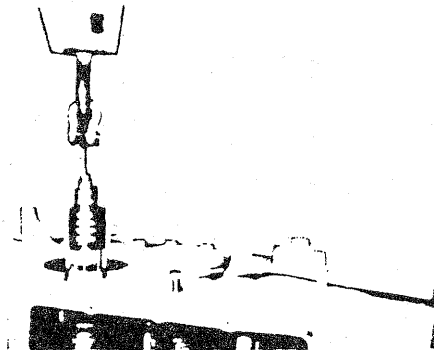

Figure 12
2. Pull shaft slowly as shown in Figure 12.